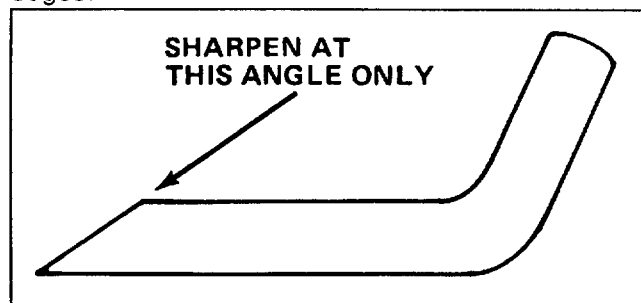

Figure 18
6. SHARPENING BLADE—Using a file, sharpen top side of blade and maintain original cutting angle (Fig. 18). The blade will remain balanced if same amount of material is removed from both cutting edges.